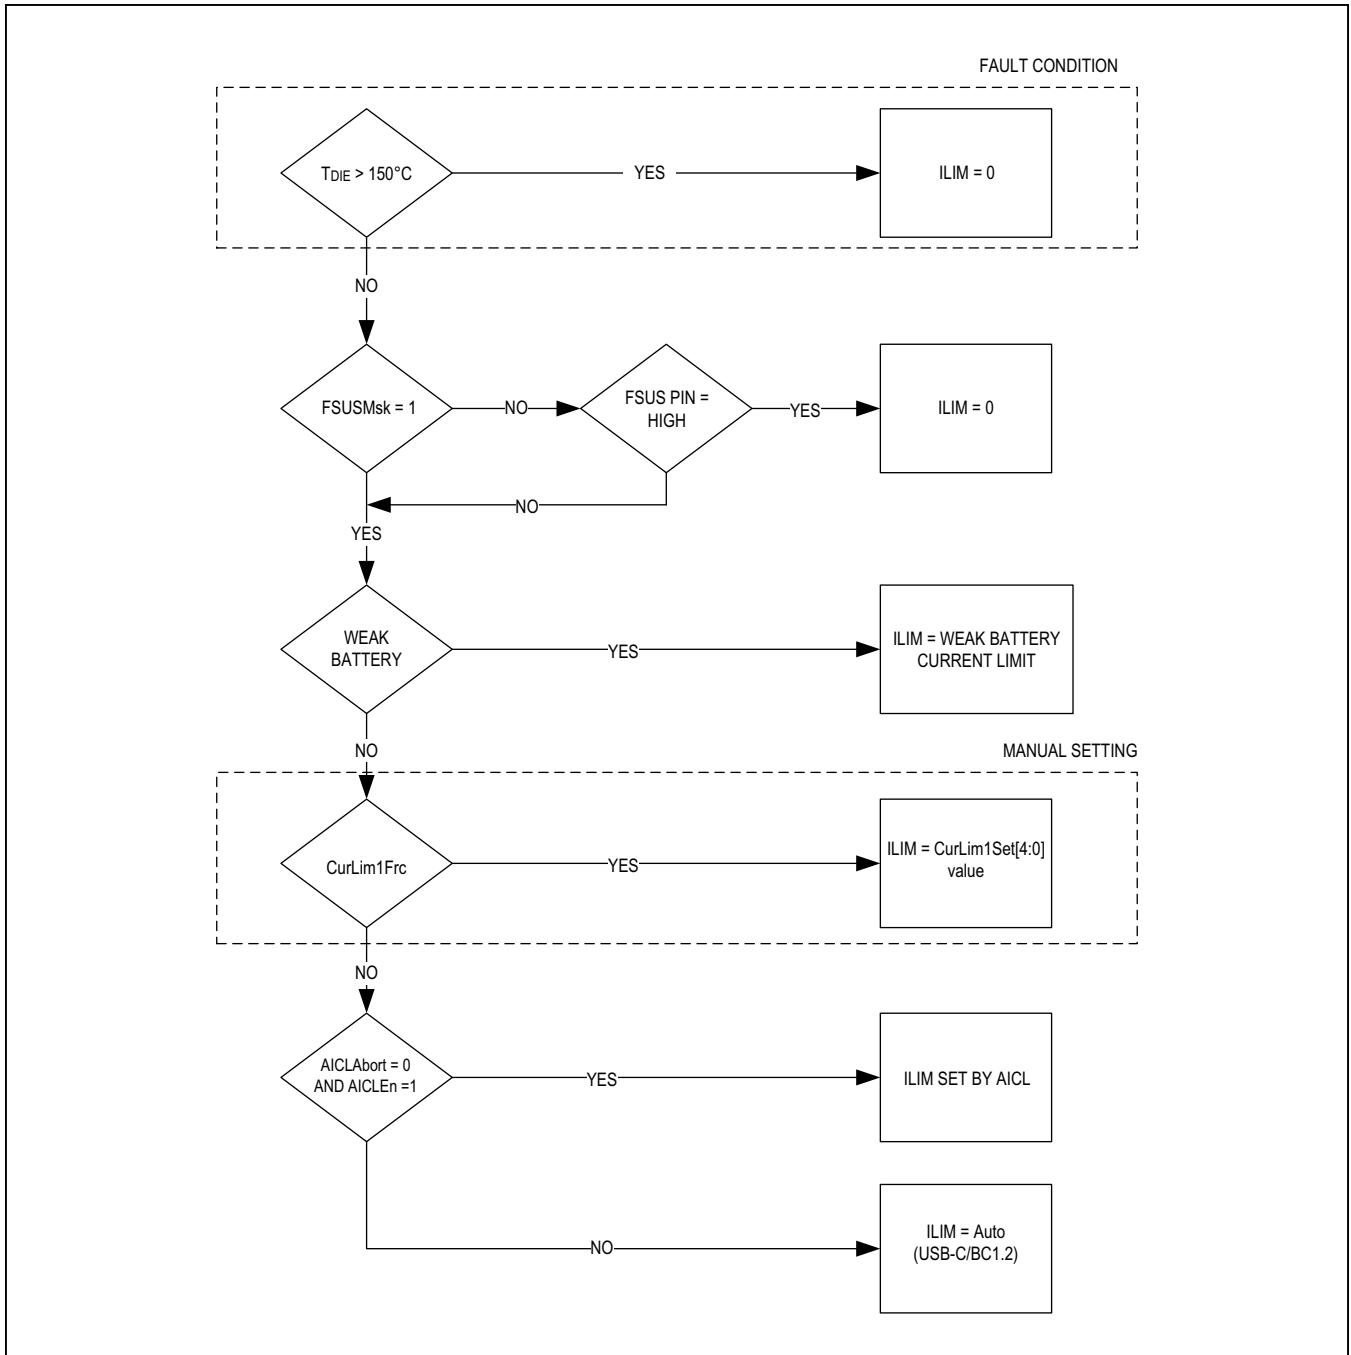

Figure 1. Input Current Limit Settings Flow Diagram
- 1) **CHGIN Input Current Limiting:** The CHGIN input current is limited to prevent input overload. The current limit can be automatically selected through charger detection to match the capabilities of the source. The result is indicated by SpvChglim[4:0] in register 0x22. See Table 1a for more details. It can also be manually set through CurLim1Frc and CurLim1Set[4:0] in register 0x21. Figure 1 illustrates how the current limit setting is selected.